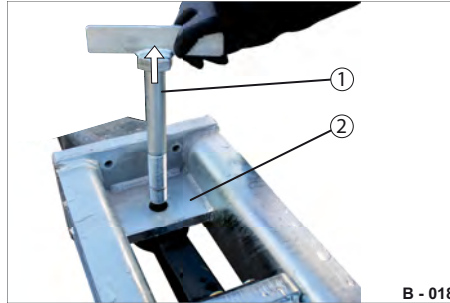

Fig. 17 Removing fastening bolt
- ▶ Pull out the fastening bolt (Fig. 17/1).